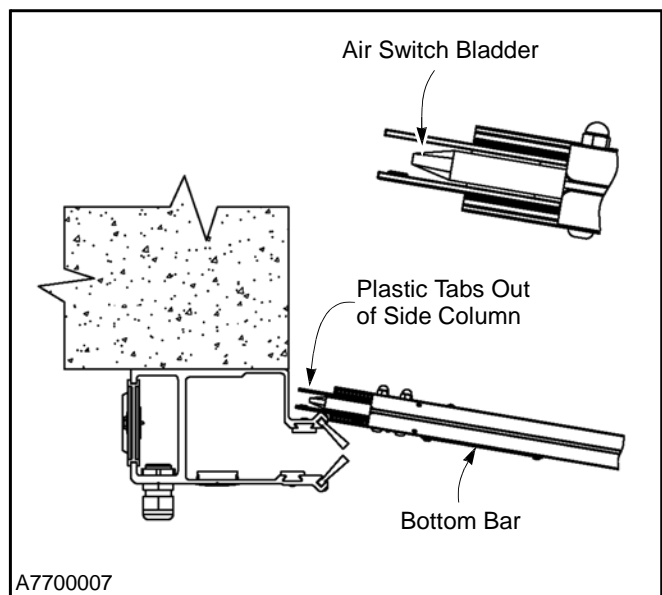
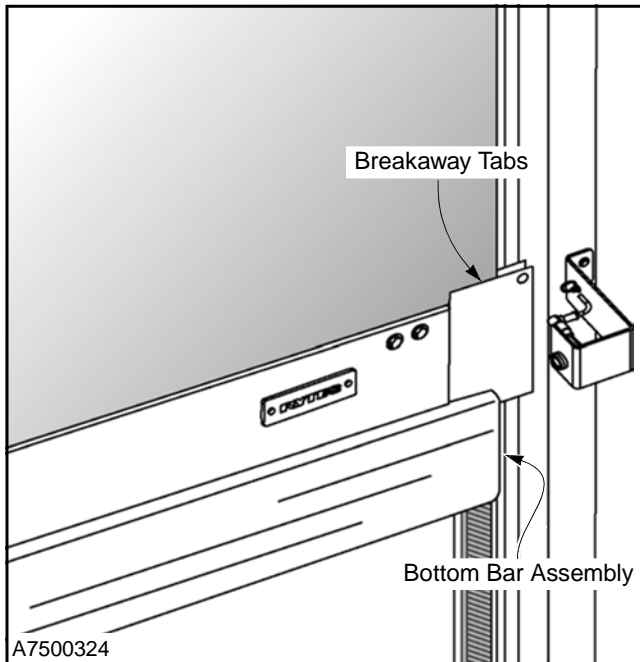

Figure 43
Figure 44
2. Push the breakaway bottom bar out of the side column. Door should not operate until control box is reset. (See Figure 43 and Figure 44.)